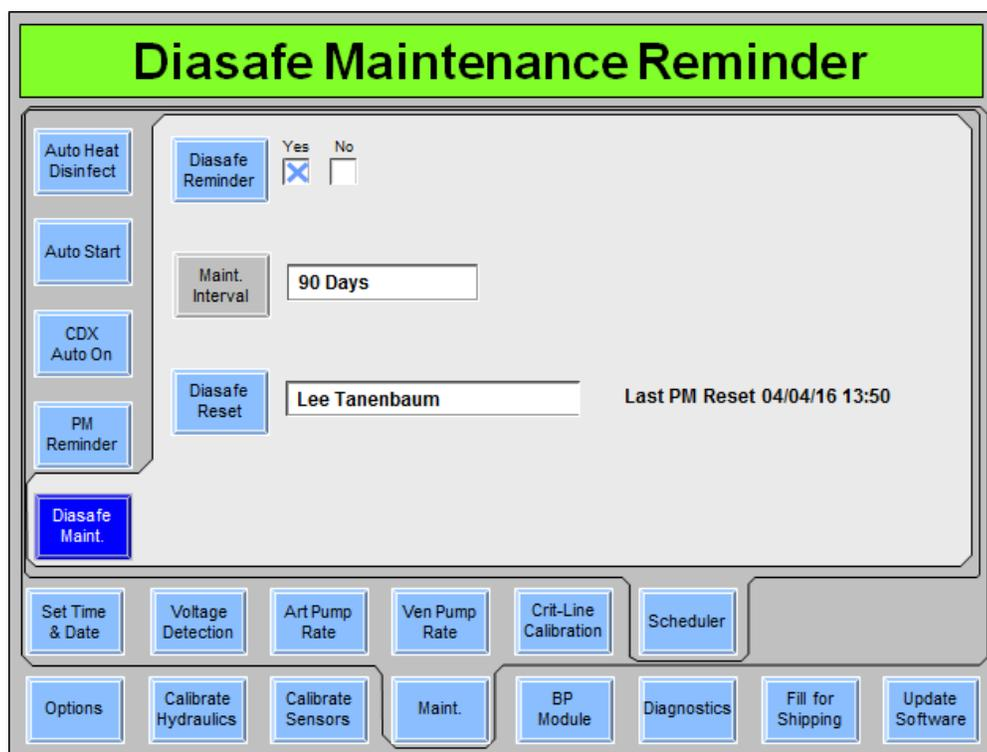
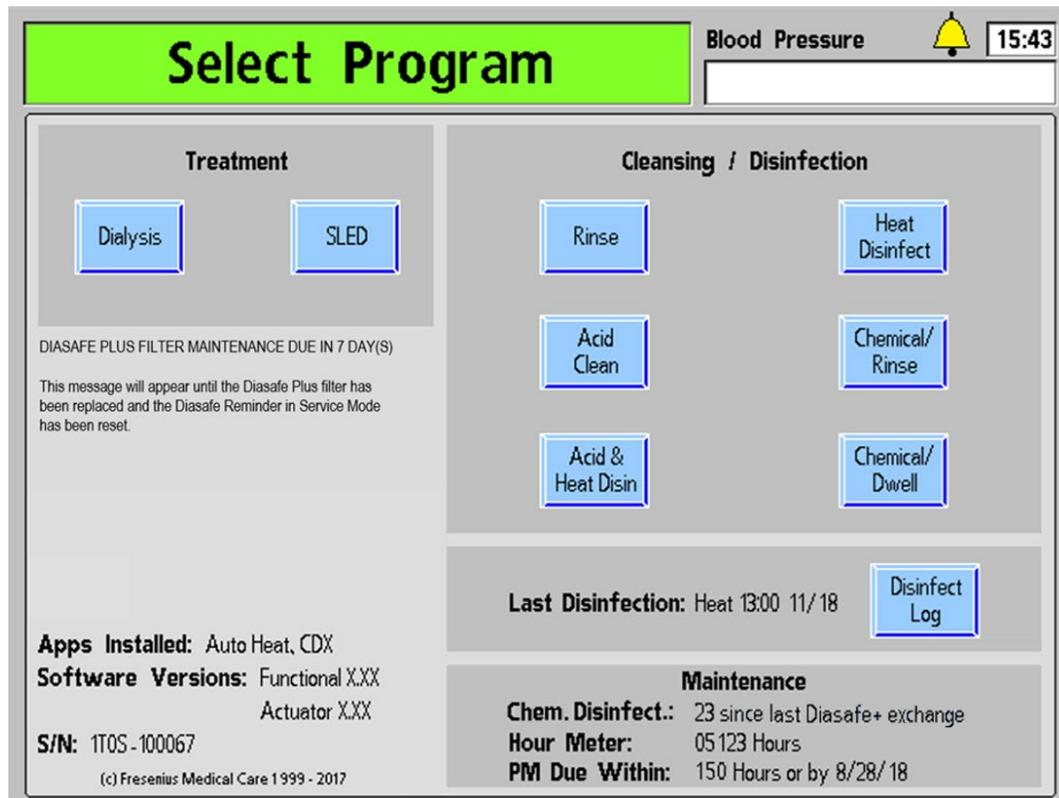

Figure 131 – Scheduler Diasafe Maint. Screen (showing functional software version 2.81 or later)
Figure 132 – Diasafe Reminder message displayed on the Select Program Screen (showing functional software version 2.81 or later)
The Diasafe Reminder option is part of 2008T BlueStar Premium * and it allows the user to program the 2008T hemodialysis machine to display a reminder on the “Select Program” screen (see Figure 132) to replace the DIASAFE *plus*_{US} filter starting seven days before the 90 day period has expired. The Service Mode “Diasafe Maintenance Reminder” screen also records the name of the technician that performed the last Diasafe reminder reset.
3. Select the **Diasafe Reset** button and, using the keyboard, enter the technician’s name setting the PM reminder then press the **CONFIRM** key (for software version 2.81 or later, the name will populate the box automatically). This will reset the countdown clock from the last DIASAFE *plus*_{US} filter replacement date and save the technician’s name and date the 90 day timer was reset (see Figure 131). This overwrites the name and date of the technician who performed the previous PM reset.
When the next DIASAFE *plus*_{US} filter replacement is due within 7 days, a message will appear on the “Select Program” screen to remind the operator that the DIASAFE *plus*_{US} filter maintenance due date is approaching, see Figure 132 below. The remaining hours will continue to count down to zero days and the reminder message will remain until the Diasafe Reminder is reset again.
In functional software version 2.81 or later, the user can program the “Select Program” screen so that it will display the number of chemical disinfections performed since the last Diasafe Plus filter replacement, so long as the Diasafe Reminder has been reset as described above. On the “Diasafe Maintenance Reminder” screen (see Figure 131) toggle the **Chemical Counter** button to Yes. The “Chem. Disinfect” counter will appear on the “Select Program” screen in the bottom right corner under the heading “Maintenance” (see Figure 132 below).